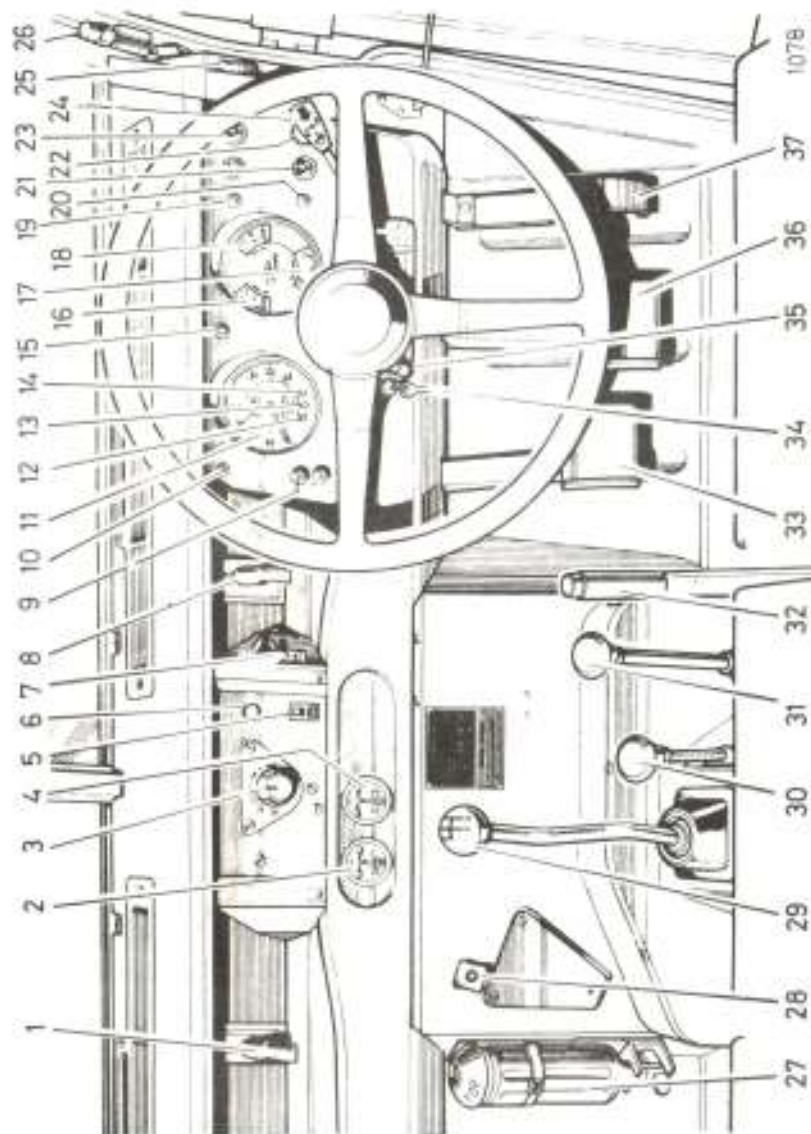

Fig. 9 Layout of controls and instruments
15. The controls and instruments are illustrated at Fig. 9.
Key to Fig. 9